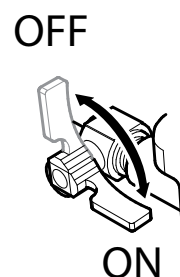

Figure 19. Water Valve (ON)
- If the sprinkling of water is required, place water valve (Figure 19) in the ON position.
4. If applicable place water valve (Figure 19) in the **OFF** position.